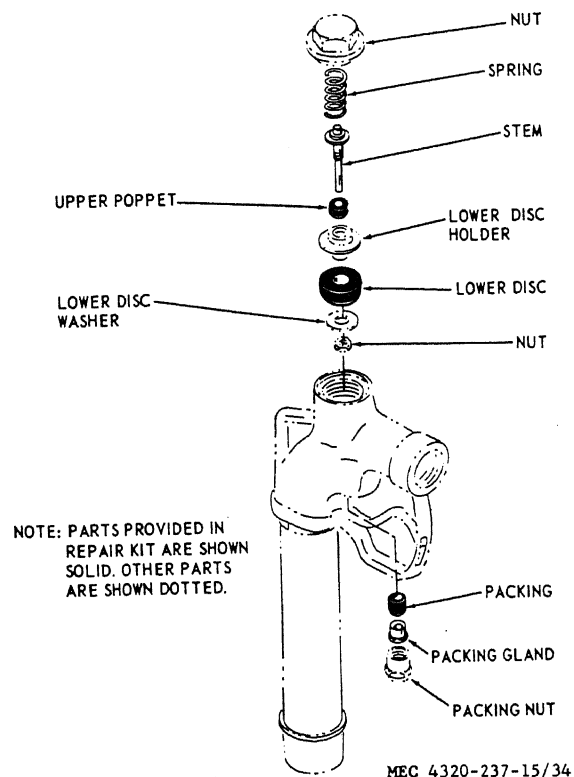

Figure 34. Nozzle, disassembly and reassembly.
*b. Disassembly.* Refer to figure 34 and disassemble the nozzle.
- (1) Discard the removed parts for which there are replacements in the nozzle repair kit.
- (2) Clean all remaining parts with an approved cleaning solvent; dry thoroughly.
- (3) Inspect the nozzle parts for cracks, distortion, worn or damaged threads, and other damage; replace damaged parts. Make sure the ground cable and pinch-type ground connector are attached and in good condition.
*d. Reassembly.* Refer to figure 34 and reassemble the nozzle.